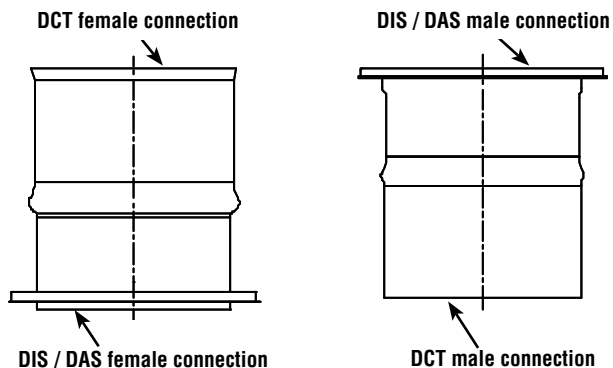

Figure 44 - DIS / DCT, DCT / DIS adaptor
1. Used to connect model DIS / DAS chimney to model DCT chimney. See **Figure 44**.